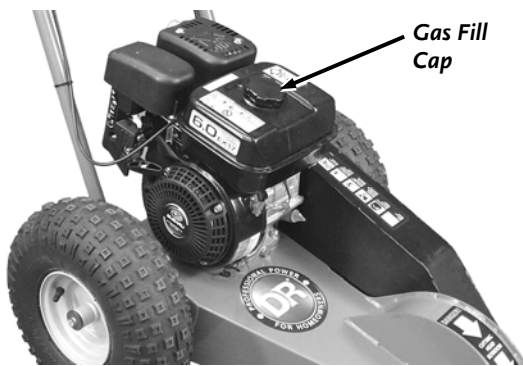

Figure 6
- Remove the Gas Fill Cap and fill the Gas Tank with fresh, unleaded gas (with a minimum of 85 Octane) to approximately 1" to 1-1/2" below the top of the fill neck to allow for fuel expansion (**Figure 6**). Be careful not to overfill and reinstall the Gas Fill Cap before starting the engine. See your Engine Owner's Manual for more detailed information.